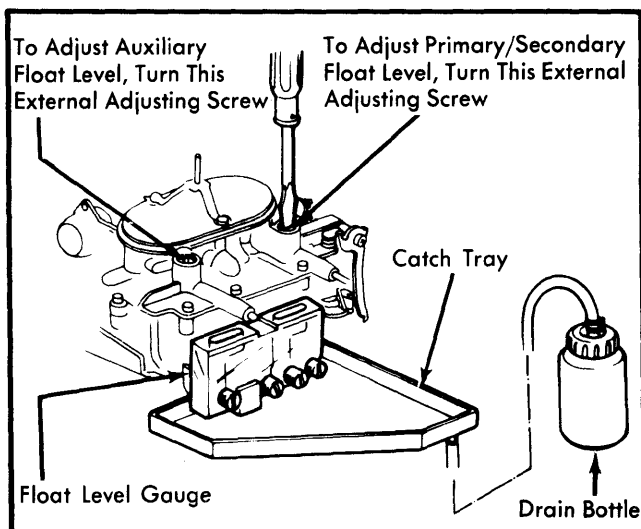

Fig. 4 Keihin Float Level Adjustment – External
2) Start engine and allow it to stabilize. Float level should remain at red line on gauge. If not, adjustment is made by turning external float level adjusting screws. See Fig. 4.